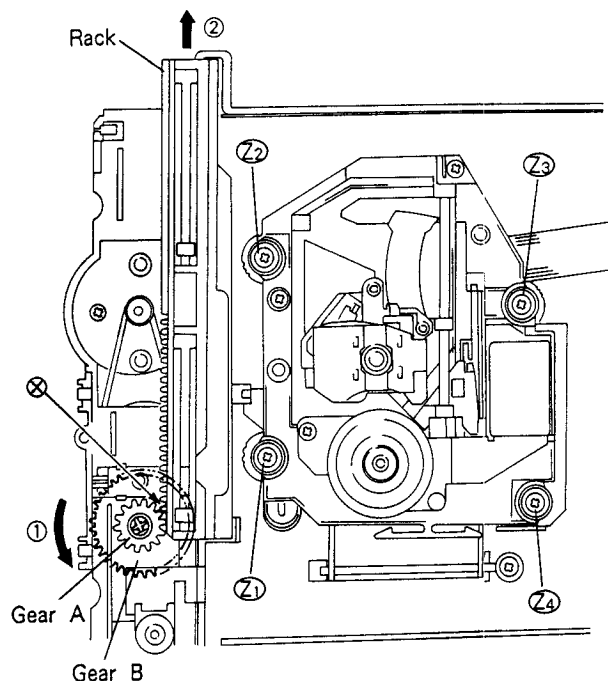

Fig. 2.
2. Remove setscrew ① to ④ (4 pieces) securing the servo mechanism assembly in place with it held down (in the tray open position). (Fig. 2.)
Note) When moving the rack, it is sometimes probable that the rack cannot be moved if the gear A and the gear section of the rack are not properly engaged with each other at the point marked ⊗. In such a case, turn the gear B by hand from the side and align the gear A with the gear section of the rack at the point ⊗ to ensure proper engagement. (Fig. 2.)
- Turn the gear B of Fig. 2 in the direction of arrow ① by hand.
2. Move the rack fully toward the back (in the direction of arrow ② shown in Fig. 2).